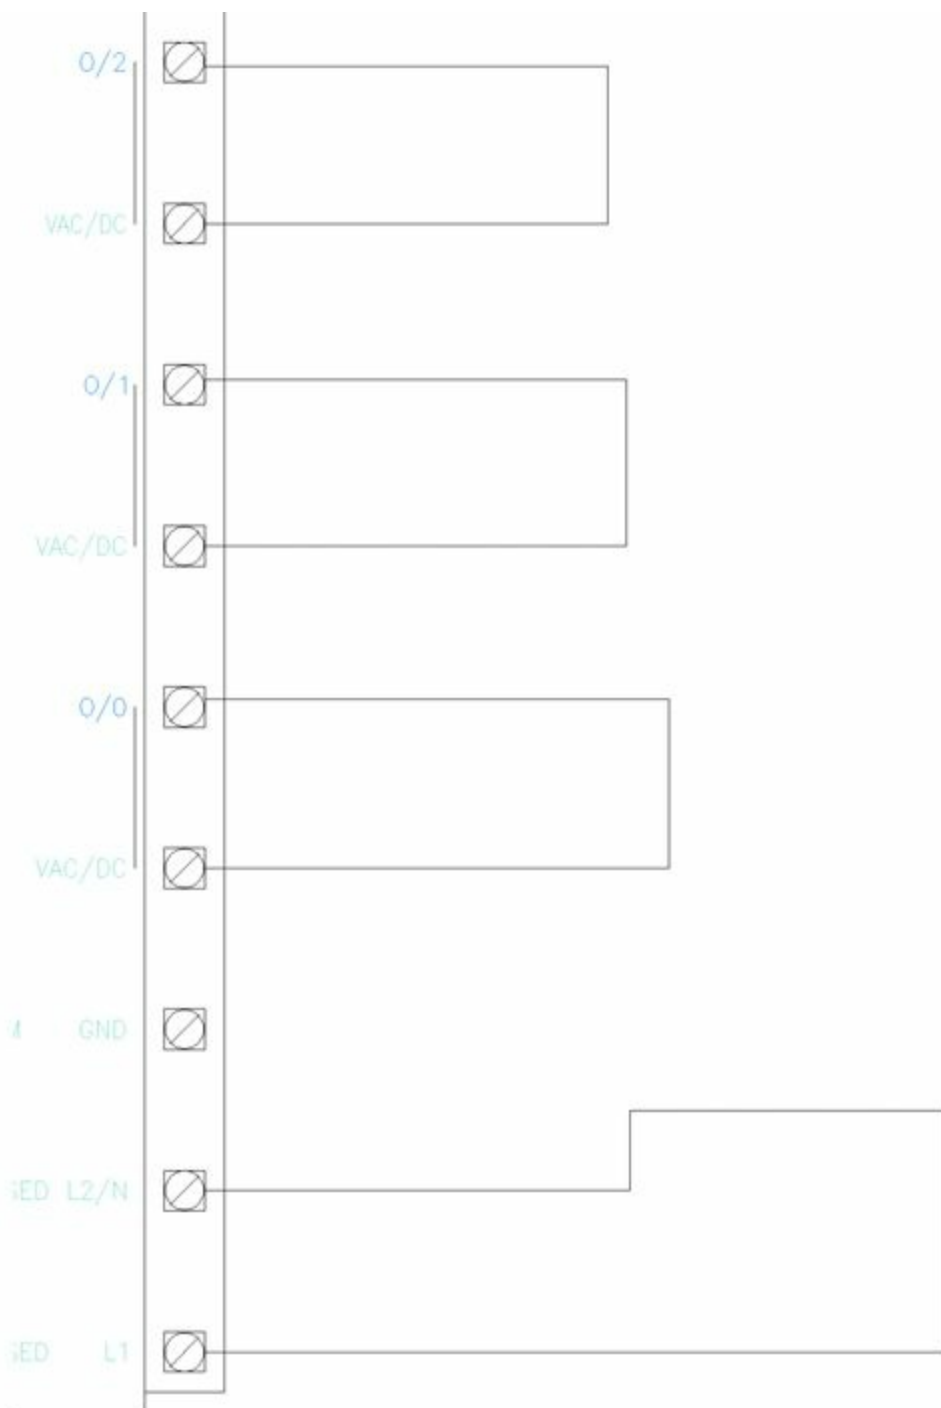

Figure-60. Circuit for output
- The right side of PLC is meant for output and power supply. Click on the **Wire** tool and build the circuit as shown in Figure-60.